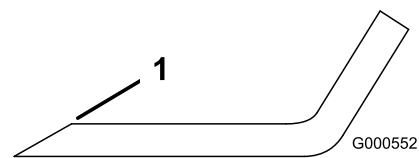
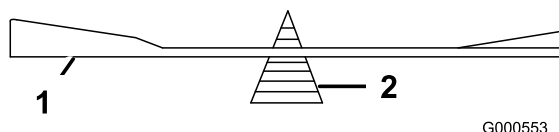

Figure 36
Figure 37
1. Use a file to sharpen the cutting edge at both ends of the blade (Figure 36). Maintain the original angle. The blade retains its balance if the same amount of material is removed from both cutting edges.
2. Check the balance of the blade by putting it on a blade balancer (Figure 37). If the blade stays in a horizontal position, the blade is balanced and can be used. If the blade is not balanced, file some metal off the end of the sail area only (Figure 36). Repeat this procedure until the blade is balanced.